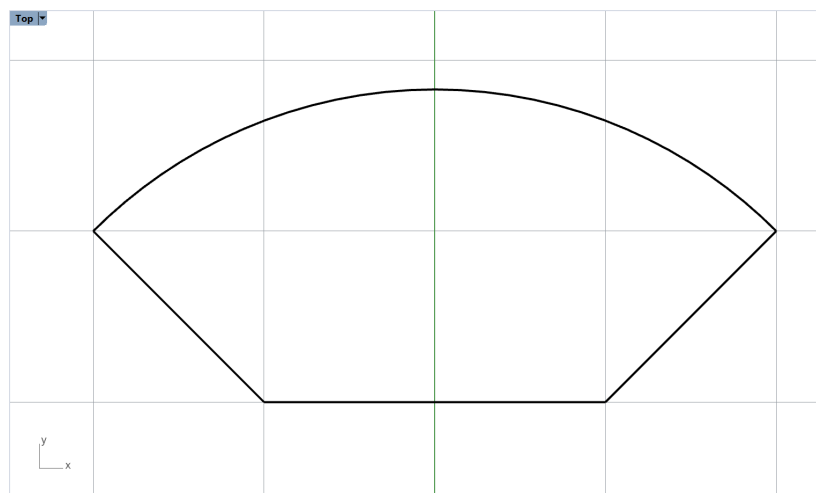

Figure 6: Single polyline consisting of three lines and an arc.
5. Select all lines with **Ctrl+A** and type the **\_Join** command to create a single polyline as in Figure 6.